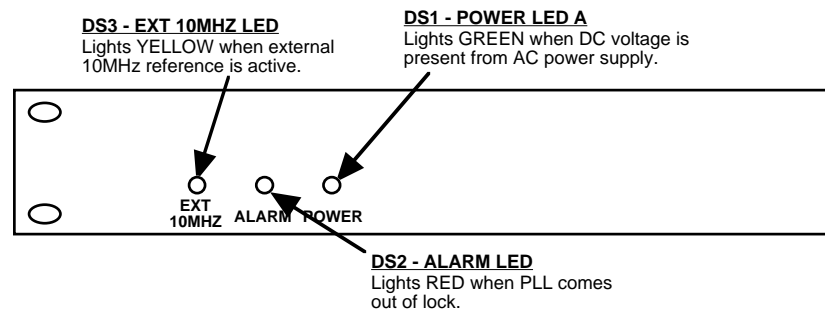

FIGURE 2.2 2116-184 Front Panel Controls and Indicators
Figure 2.2 shows the front panel indicators.
4. Be sure DS1 (green, DC Power) is on and DS2 (red, Alarm) is off (Figure 2.2).
6. If EXT is selected or AUTO is selected and there is a 10MHz, 3 dBm signal at J2, check that DS3 (yellow, Ext 10MHZ) is on (Figure 2.2).